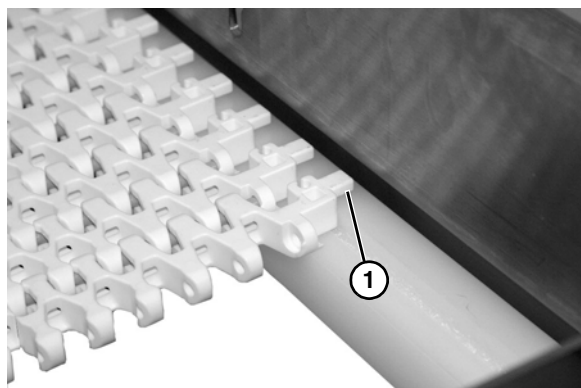

Figure 26
5. When feeding belt through straight section, be sure belt tabs ride on top lip of belt return (Figure 26, item 1).